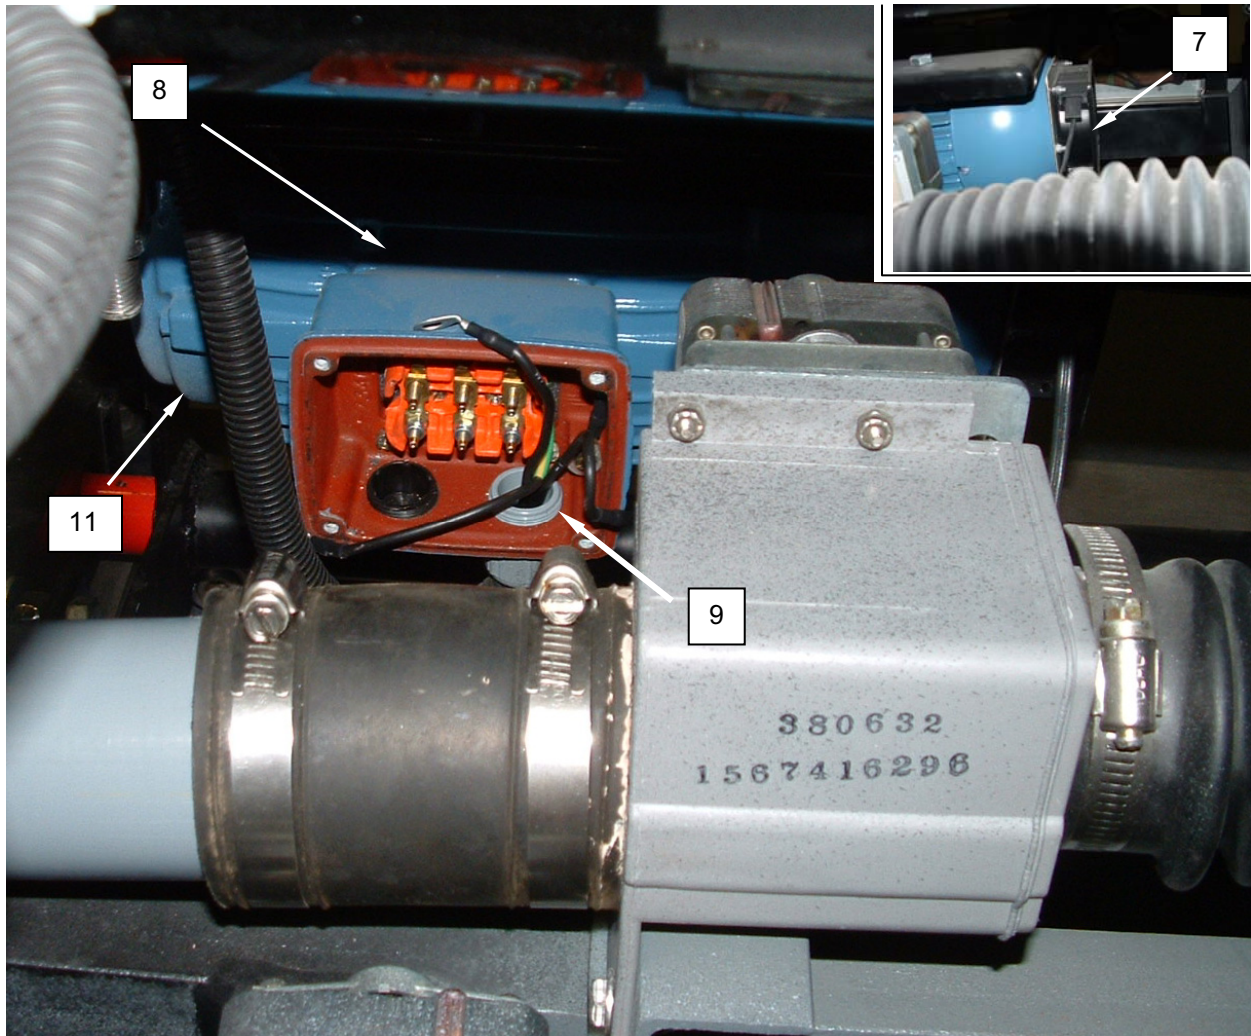

Figure 6. Replace the Washer Motor.
14. Remove screws retaining junction box (**Figure 6, Item 8**) cover to replacement motor (**Figure 6, Item 11**) and remove cover.
15. If necessary, knock out plug from conduit penetration on replacement motor (**Figure 6, Item 11**).
16. Install conduit (**Figure 6, Item 9**) into junction box (**Figure 6, Item 8**) on replacement motor (**Figure 6, Item 11**), and retain with locknut.
17. Connect wiring to motor (**Figure 6, Item 11**) and to the motor fan (**Figure 6, Item 7**) as tagged.
18. Install motor junction box (**Figure 6, Item 8**) cover and retain with screws.